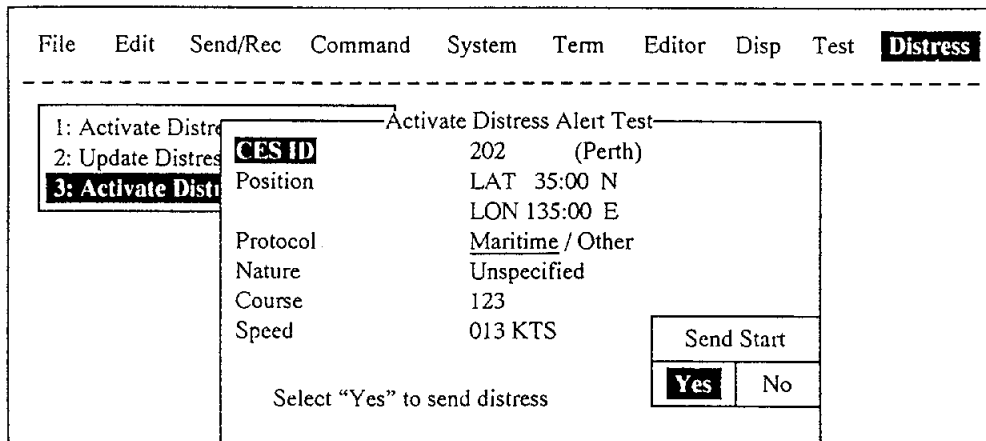

Figure 6-10 Activate Distress Alert Test Screen
4. Press the **Enter** key. The display should look something like Figure 6-10.